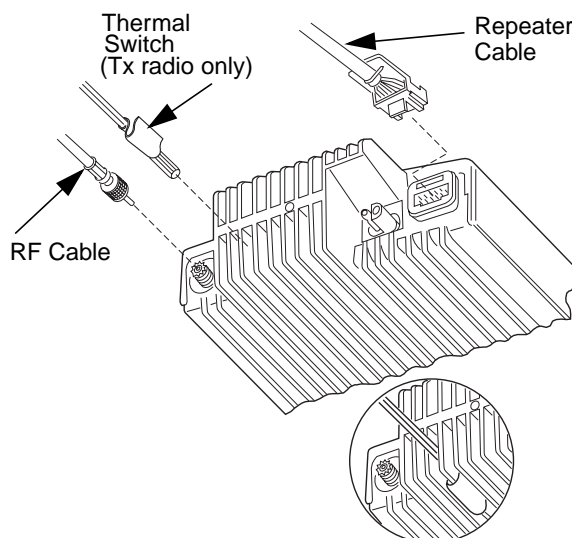

Figure 3-2. Professional Series Transmit Radio, Rear View
- Connect the mini-UHF connector of the cable to the antenna connector of the receive radio. Refer to Figure 3-2.
- Connect one end of the first repeater cable to the accessory connector of the receive radio (refer to Figure 3-2).
- Connect the mini-UHF connector of the cable to the antenna connector of the transmit radio. Refer to Figure 3-2.
- Connect one end of the second repeater cable to the accessory connector of the transmit radio (refer to Figure 3-2).
- Place the thermal switch and mounting clip, in-between the long fins (5 and 6 on the antenna connector side) of the transmit radio's heatsink. Refer to Figure 3-2